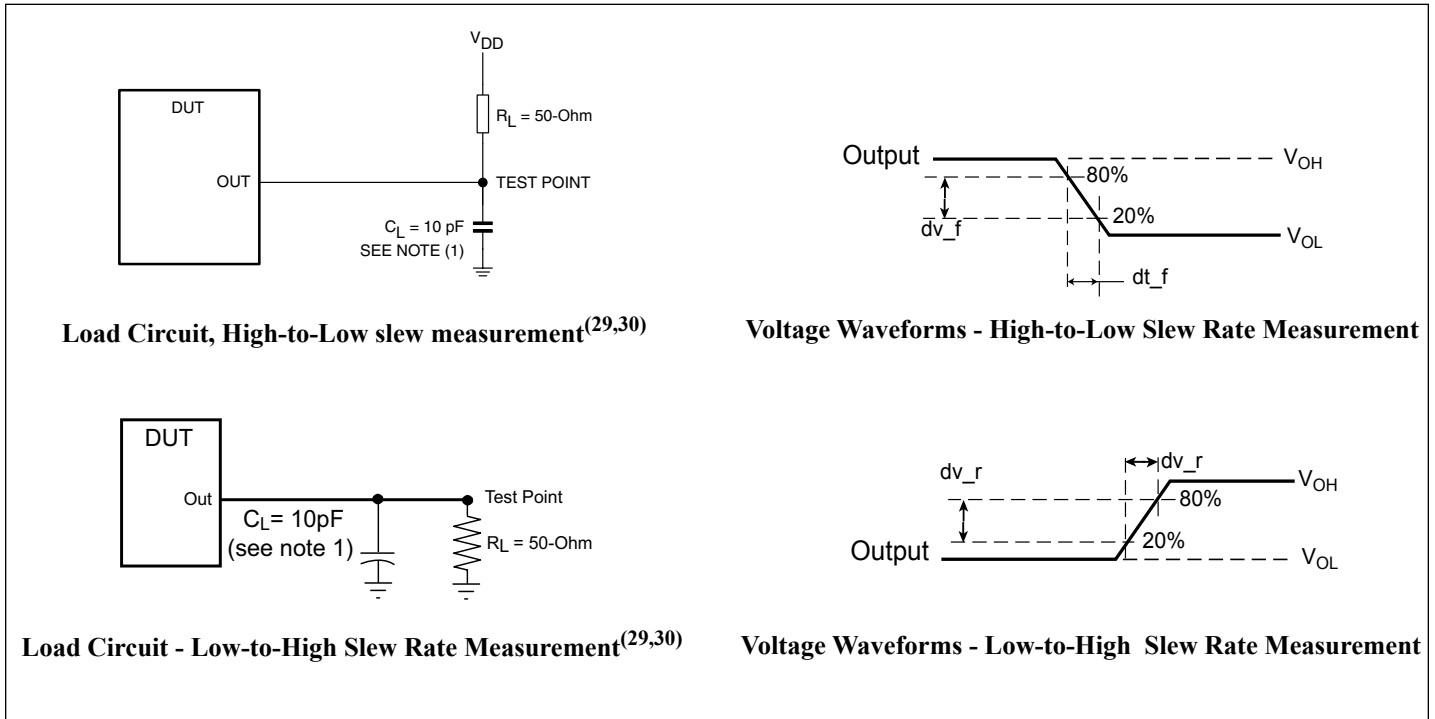

Figure 2. Data Output Slew-Rate Measurement Information ( $V_{DD} = 1.8V \pm 0.1V$ )
**Data Output Edge Rates** Over Recommended Operating Free Air Temperature range (See Figure 2)